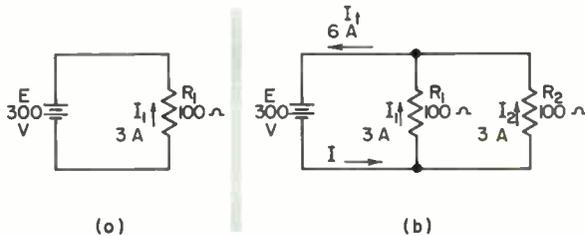

Fig. 29 When a parallel resistor is added to the circuit in (a), total current increases as shown in (b).
Now let's see what happens in a circuit when one resistor is connected in parallel with a second, equal resistor. In Fig 29(a) a $100\text{-}\Omega$ resistor is connected across a 300-V battery. The current is found as follows:
- 26 In Fig. 29(b), a second 100- Ω resistor (R_2) is connected in parallel with the first. Note that this second resistor is connected across the battery terminals in the same way as the first resistor. In other words, the voltage across R_2 is 300 V. The current I_2 through R_2 is
What happens to the combined resistance? Using Ohm's law for resistance, we find in Fig. 29(a):
Similarly, in Fig. 29(b):